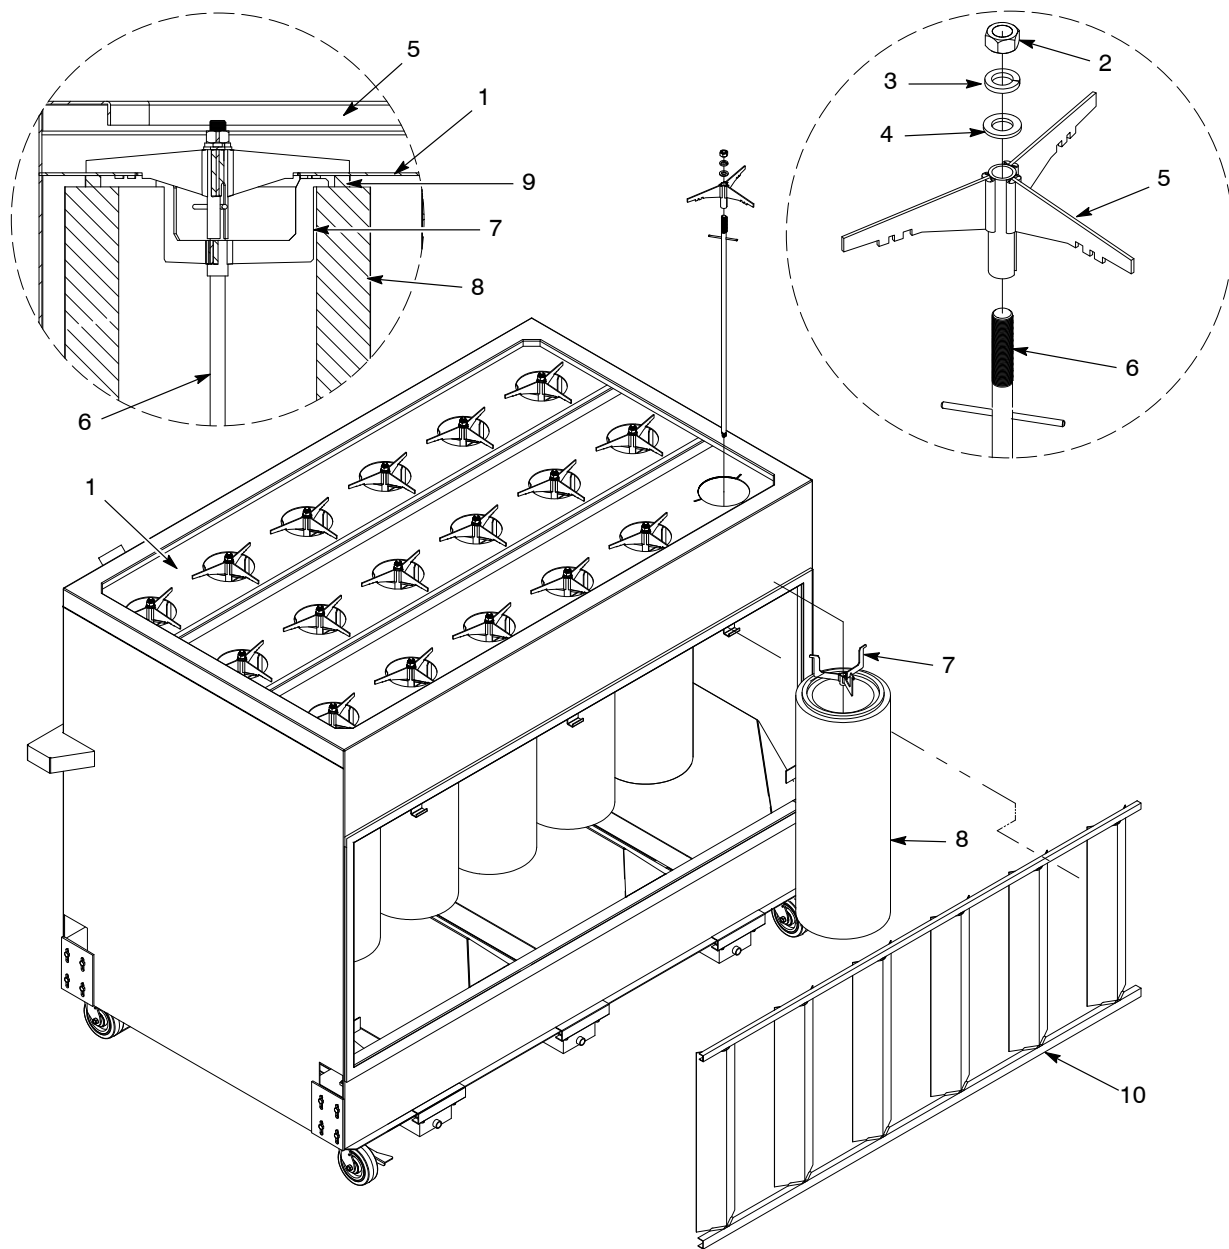

Figure 6-2 Cartridge Filter Replacement
1. See Figure 6-2. Remove the color module from under the fan section.
2. Remove the baffle (10) to access the cartridge filters (8).
3. Pull up on the T-handles on the draw rods (6) to hold the cartridge filters against the tube sheet (1).
4. Remove the nuts (2), lock washers (3), flat washers (4), and filter mounts (5) from the draw rods. Save the removed parts.
6. Unscrew the draw rods from the cartridge filter bosses and remove the filter centering brackets (7) and draw rods from the cartridge filters. Save the draw rods and centering brackets for reuse.
1. See Figure 6-2. Thoroughly clean the sealing surfaces on the underside of the tube sheet (1). Dirty surfaces will prevent the cartridge filter gaskets from sealing properly.
2. Insert the threaded end of the draw rods (6) through the centering brackets (7).
3. Install the draw rods and centering brackets in the new cartridge filters (8). Screw the draw rods into the filter bosses and tighten by hand.
5. Use the T-handles to pull the cartridge filters up against the filter mounting plates. Install the filter mounts (5) on the draw rods, making sure the slots in the filter mounts slip over the T-handles.
6. Install the flat washers (4), lock washers (3), and nuts (2) on the draw rods.